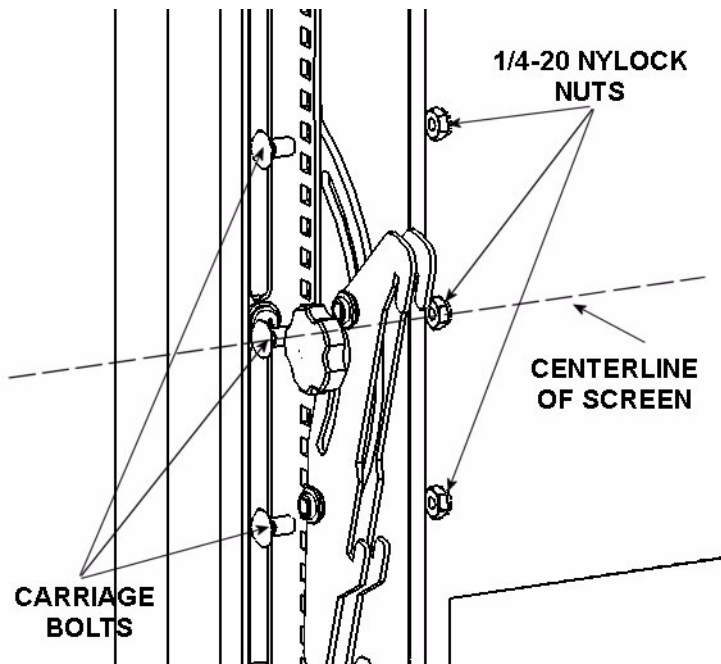

Figure 7. Attach Tilt Brackets
4. Attach tilt brackets (40) with the center hole of the tilt assembly as close to the center line of the display as possible (see Figure 7), positioning the assembly with the knob side toward the outside of the display.